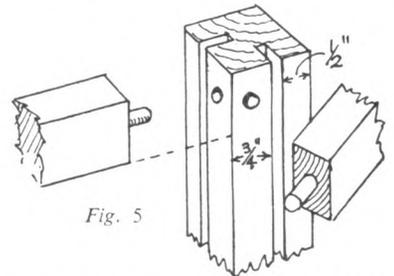

Fig. 5
and the strengthening angle blocks between legs and rails. Fig. 5 shows the method of dowelling the rails to the legs, and Fig. 6 the construction of the drawer.
The four legs are 36ins. long and 1½ins. square in section. The front two will have one groove each, while the rear two will have two grooves each. All grooves should run to within 6½ins. of the foot of the legs, see Fig. 2, and they should be ½in. in from the outer face of the legs as Fig. 5 shows. The legs are connected up by the pairs of rails (A), (B), (C), (D), (E) and (F), and their position can be calculated from Figs. 2